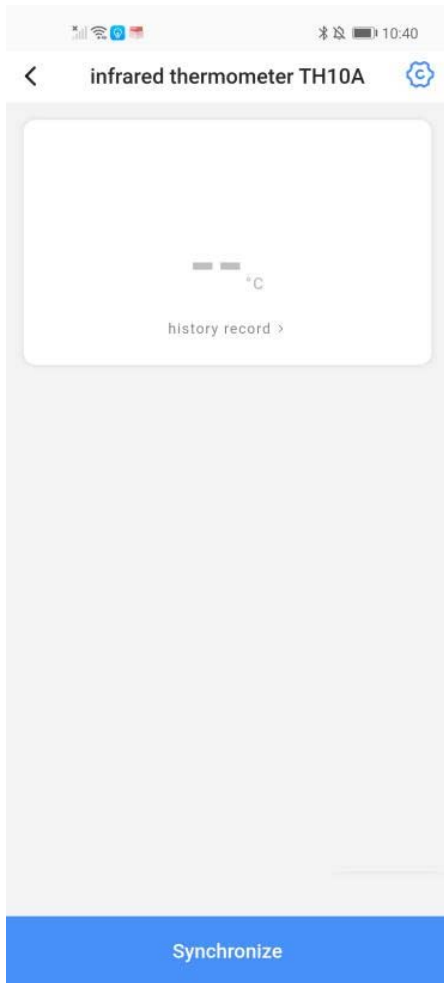
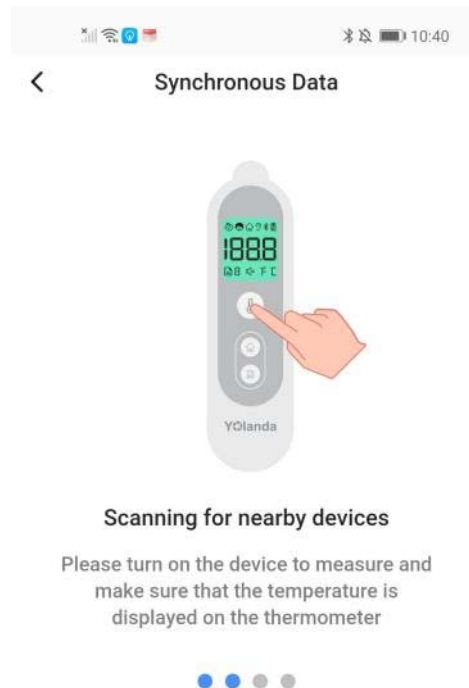
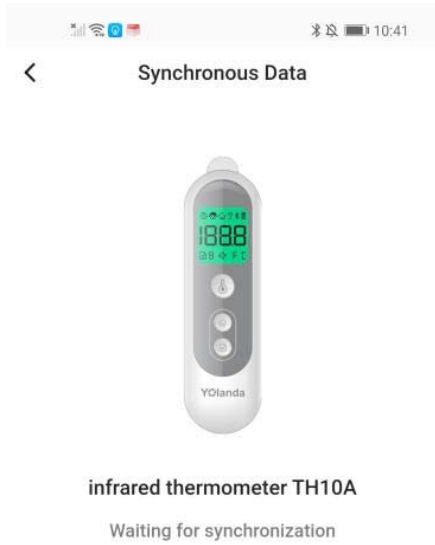

Fig.14
Fig.15
Fig.16
- 2) Click the "O" next to "temperature" on Fig.13, it will jump to Fig.14 interface.
- 3) Click "Synchronize" on Fig.14 and wait for the device to connect. The connection status is as shown in Fig.15
- 4) Power on your thermometer and measure the temperature according to the Fig.15 prompts. When the temperature value is displayed on your thermometer after the measurement, the app will automatically search your thermometer, the APP will jump to Fig.16 if it successfully connect to the your thermometer(at the same time, the LCD will display the Bluetooth icon).
- 5) Click the“waiting for synchronization”in Fig.16, at this time, the measured data is being transferred from the thermometer to the app. Please keep the thermometer in the power on state.